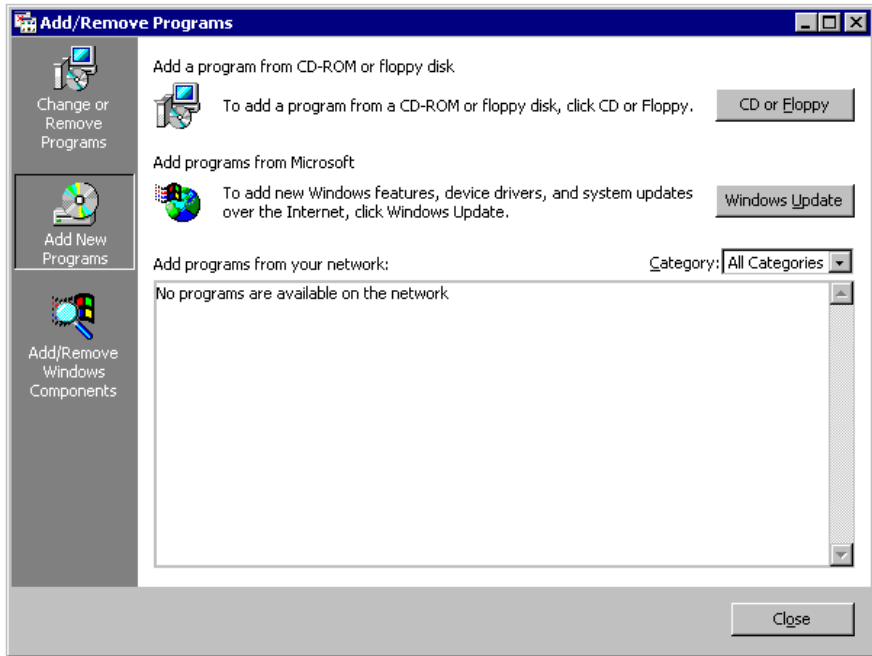
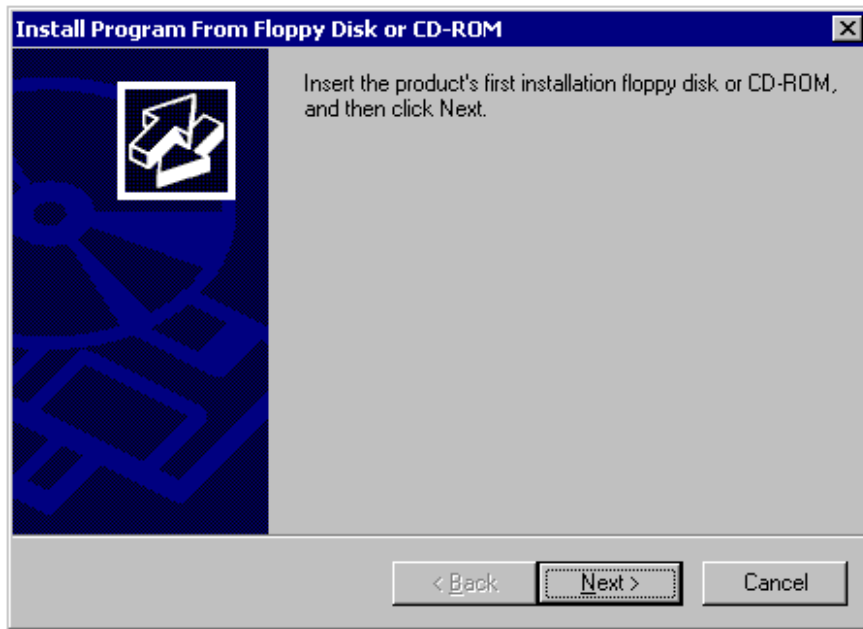

Figure 32. Add/Remove Programs
Figure 33. Install Program Screen
The **Add/Remove Programs** screen appears (Figure 32).
2. Select **Add New Programs** on the left and then select **CD or Floppy** (Figure 32). The **Install Program From Floppy Disk or CD-ROM** screen appears (Figure 33).